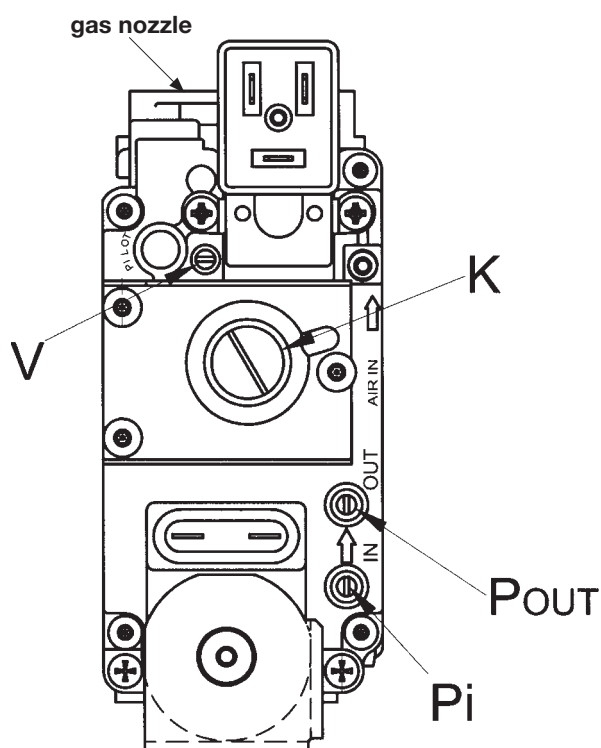

Figure 12a
## 13.1 SINGLE GAS VALVE MODELS (POWER HT 1.850 AND 1.1000) FIGURE 12a
- For models with one valve, replace the diaphragm on the gas valve outlet (figure 12a).